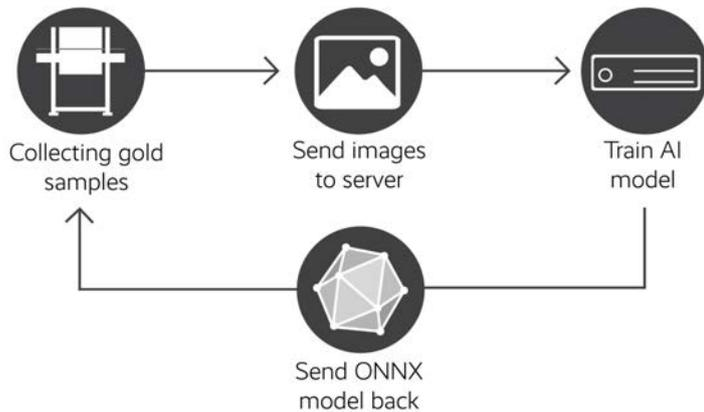

Figure 4: *nLine* training procedure schematic with external Xeon server
This works by sending the collected gold sample images to a very small training application running on one of the Xeon servers, where the training loop starts and trains the AI model for several epochs. After it has finished, a simple ONNX model is exported and sent back to *nLine*, ready to be used. Check out figure 4 to see a graphical representation of this process. Wahtari uses Tensorflow (TF) as AI training framework, along with special Intel